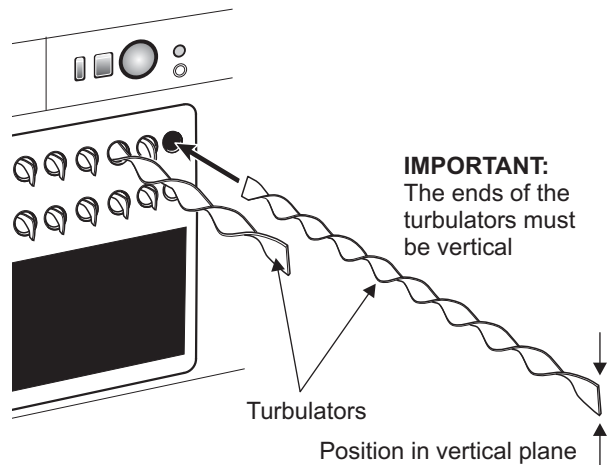

Fig. 27 - Removal/replacement of spiral turbulators
- 7 Pull out the spiral turbulators from the heat exchanger tubes. See Fig. 27.